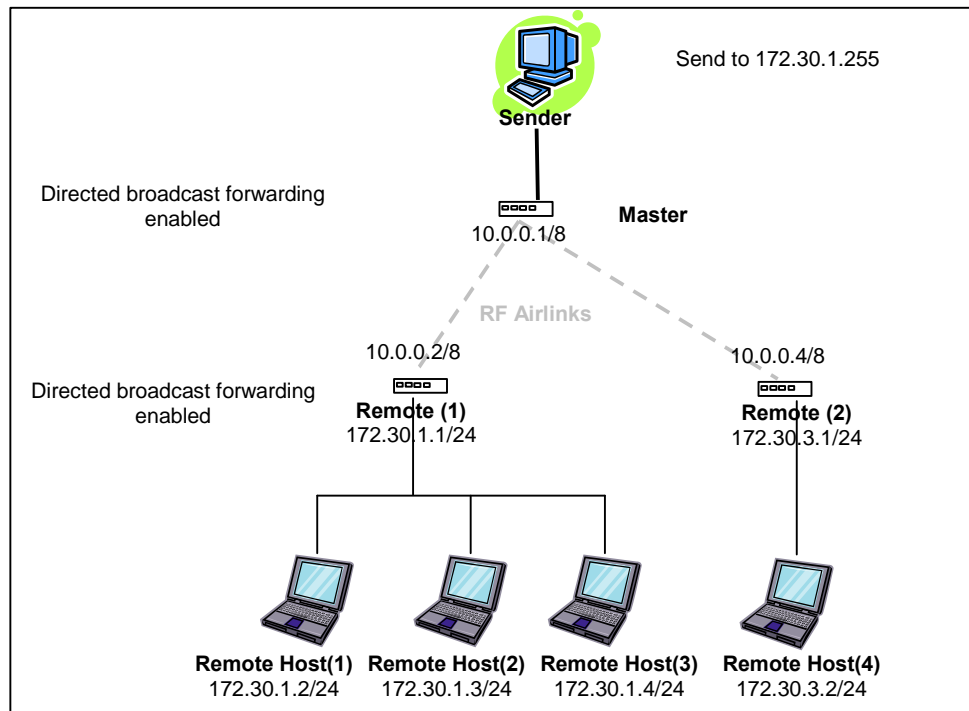

Figure 54 - Example-Directed broadcast forwarding enabled
In the example in Figure 54, directed broadcast forwarding is enabled on the **Master** unit and on **Remote (1)** unit. If **Sender** wants to reach **Remote Host (1)**, **Remote Host (2)**, and **Remote Host (3)** with a single packet, he can send to destination address 172.30.1.255.